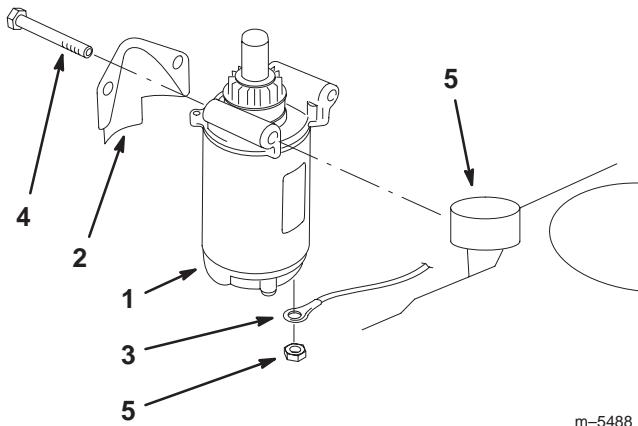

Figure 1
1. Install the red battery cable to the bottom of the starter motor (Fig. 1).
2. Remove the 2 screws securing starter cover to right side of engine. Retain the screws but discard the cover (Fig. 1).
3. Mount the starter motor to the engine with 2 flange head bolts (3/8 x 3-1/2 inch) (Fig. 1).
4. Install the new starter cover to the engine with 2 screws previously removed (Fig. 1).